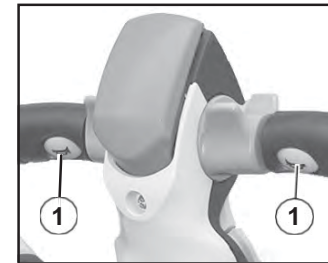

Fig. 20 Horn
Press the horn button (Fig. 20, ①) to warn other people, especially in the following situations: